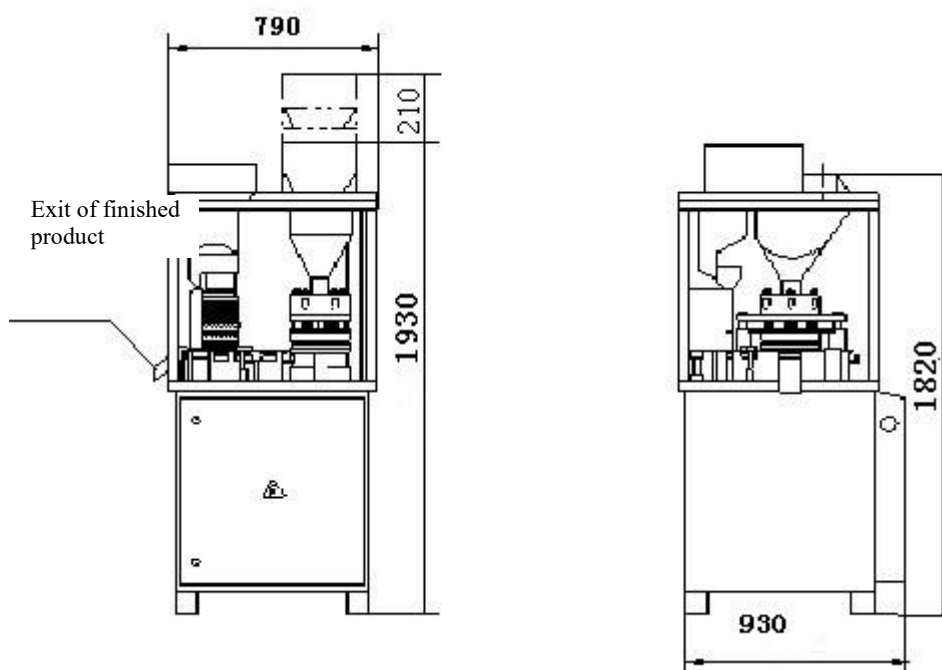

Fig.1 Appearance and Dimensions
2.1 Dimensions: 930×790 × 1930 mm (refer to Fig. 1)